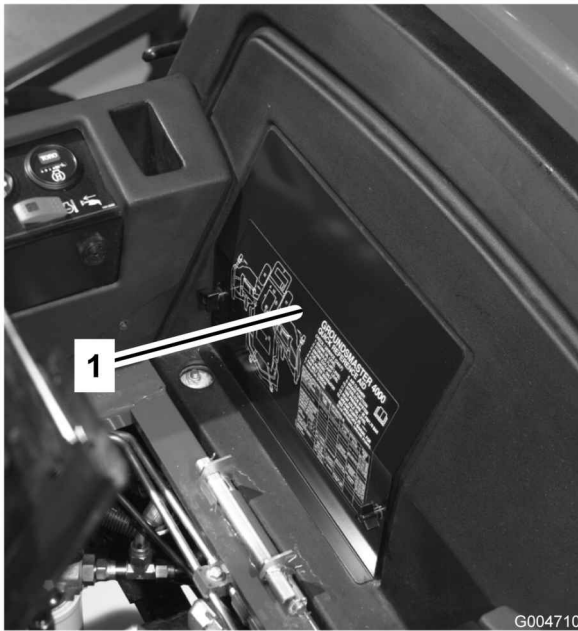

Figure 53
2. Remove the battery cover (Figure 53).